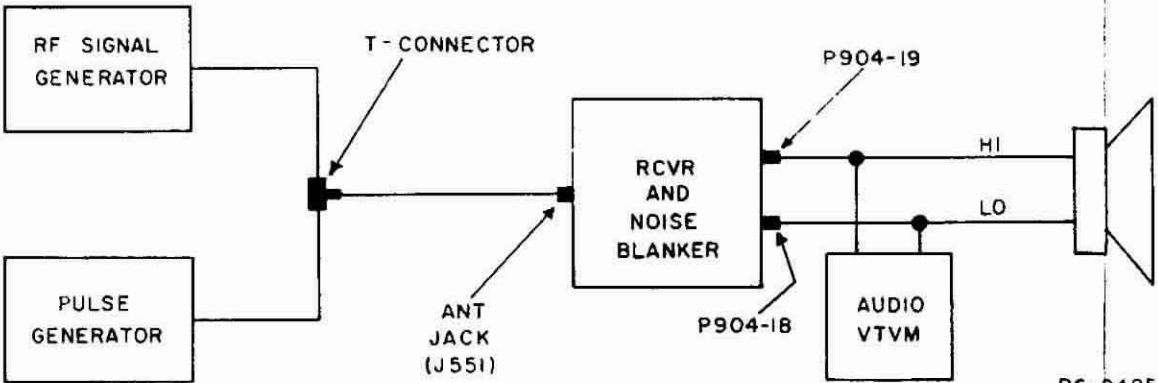

Figure 1 - Equipment Connection Diagram
1. Connect Pulse Generator and RF Signal Generator to receiver antenna jack (J551) through a T-Connector, and connect AC Voltmeter to receive audio output (Speaker LO, P904-18, Speaker HI, P904-19) as shown in Figure 1.
①
1. TO PROGRAM A STANDARD CHANNEL GUARD FREQUENCY FROM THE CHART, OPEN EACH SWITCH STATION INDICATED BY AN "X". CLOSE EACH SWITCH STATION INDICATED BY A BLANK. SEE FIG 1.